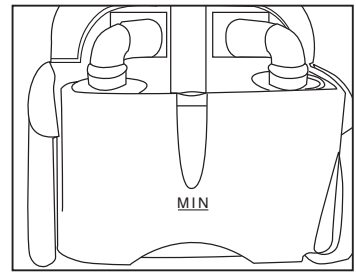

Fig. 4
Fill the container (2) with tap water up to the MIN level mark (Fig. 4); put the cover back on and engage the two catches a+b (catch "b" should be engaged in the body). Filling the container with water, will ensure that the air is filtered and any impurities (dust, mites, etc.) are trapped.
- Introduce the plug of the power cable (10) into the electrical socket.